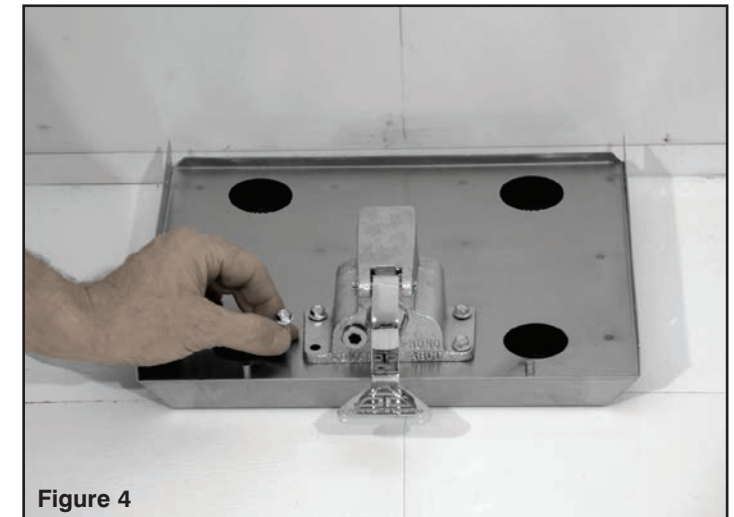

Figure 4
Position and Secure Foot Valve to Base Shelf with (4) 1/4 -20 x 3/4" Hex Head Bolts provided. (See Figure 4)